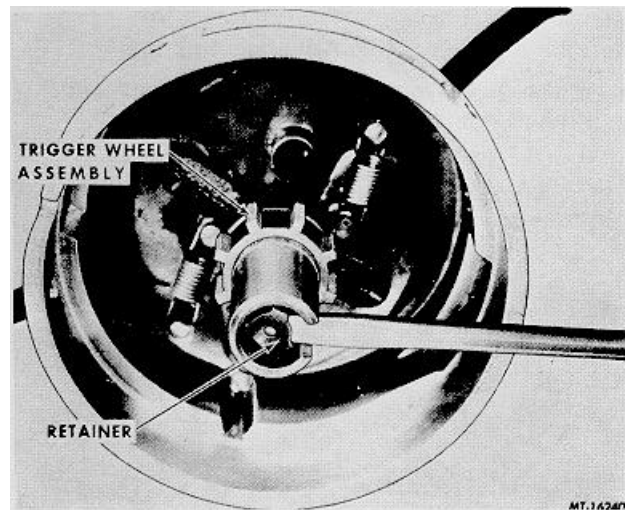

Fig. 21 Removing Trigger Wheel Assembly Retainer
- Remove trigger wheel assembly retainer from distributor shaft using hooked extractor tool or small screwdriver (Fig. 21).